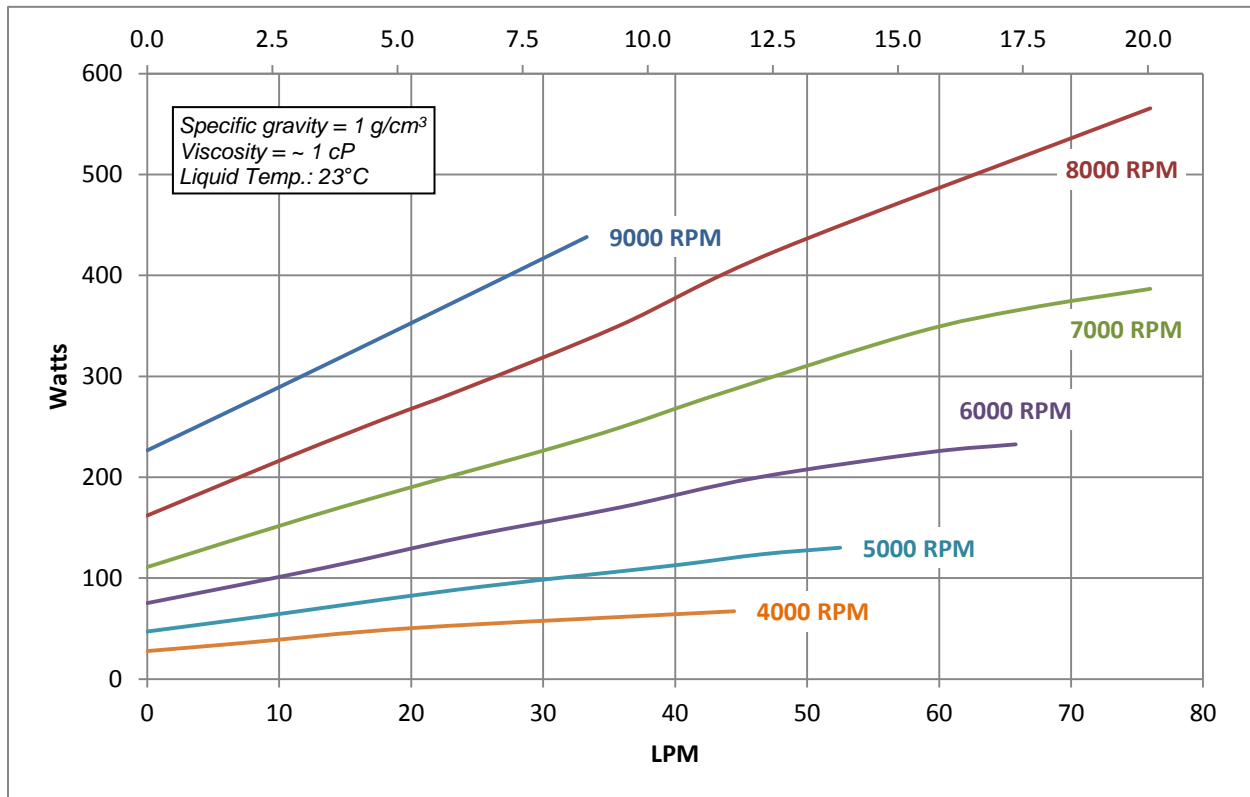

Figure 12 – Electrical Power Consumption
4. The pump system requires 48 VDC supply voltage at a maximum power of 600 W. Depending on the desired hydraulic operational point, smaller power supplies may be used. Also, a larger supply may be used to power several pump systems simultaneously. Figure 12 shows the power consumption depending on the pressure and flow rate. Contact Trebor for additional information on a power supply solution.